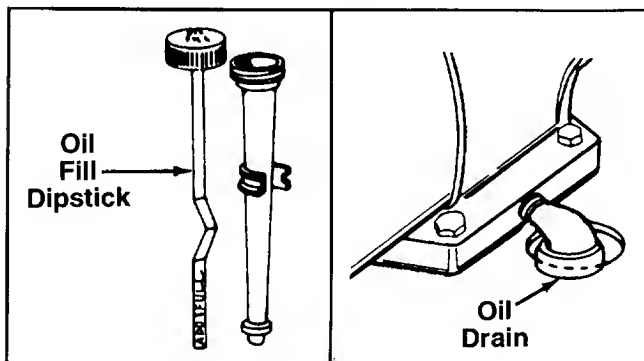

FIGURE 7.
- Fill engine with oil as follows. Remove oil fill dipstick. See figure 7. With chipper-shredder level, use a funnel to fill engine with oil to FULL mark on dipstick. Capacity is approximately 1-1/4 pints. Be careful not to overfill. Tilt chipper-shredder toward the left (from behind the hopper), then re-level. Check oil level. Refill to FULL mark on dipstick if necessary. Replace dipstick and tighten.
Your four-cycle engine will normally consume some oil—therefore, check engine oil level regularly approximately every five hours of operation and before each usage. Stop engine and wait several minutes before checking oil level. With engine level, the oil must be to FULL mark on dipstick (refer to figure 7). Change engine oil after the first five hours of operation, and every twenty-five hours thereafter.
- a. Remove oil drain plug. Refer to figure 7. Catch oil in a suitable container.